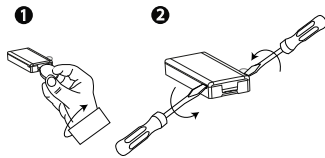

Figure 4: Device cover removal
- 1. Remove the cover. See Figure 4.